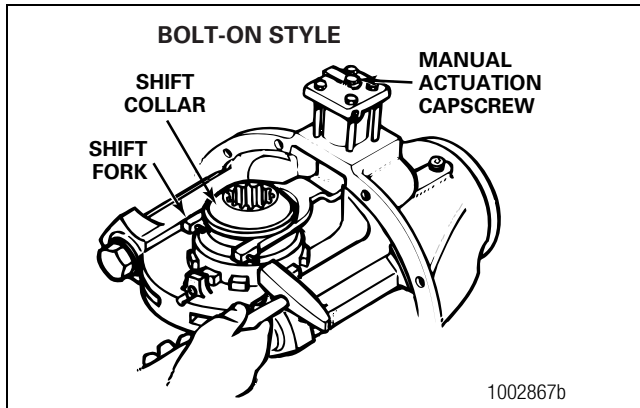

Figure 6.14
12. Hold the shift collar in the locked or engaged position. If employed, tap the two roll pins into the shift fork ends until they are level with the outer yoke faces. Figure 6.14.